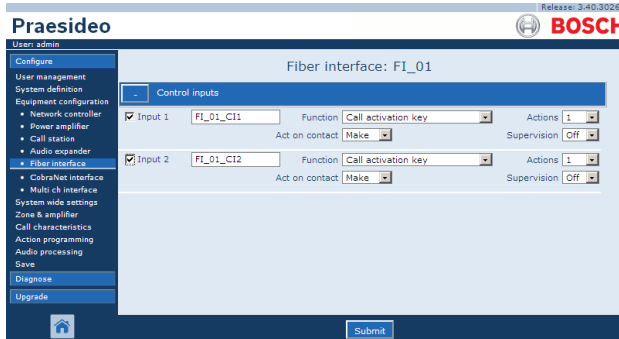

figure 43.32: Configure fiber interface, step 2
- 2 Click the name of the fiber interface that must be configured. A screen similar the one in figure 43.32 appears in the main frame of the web interface.